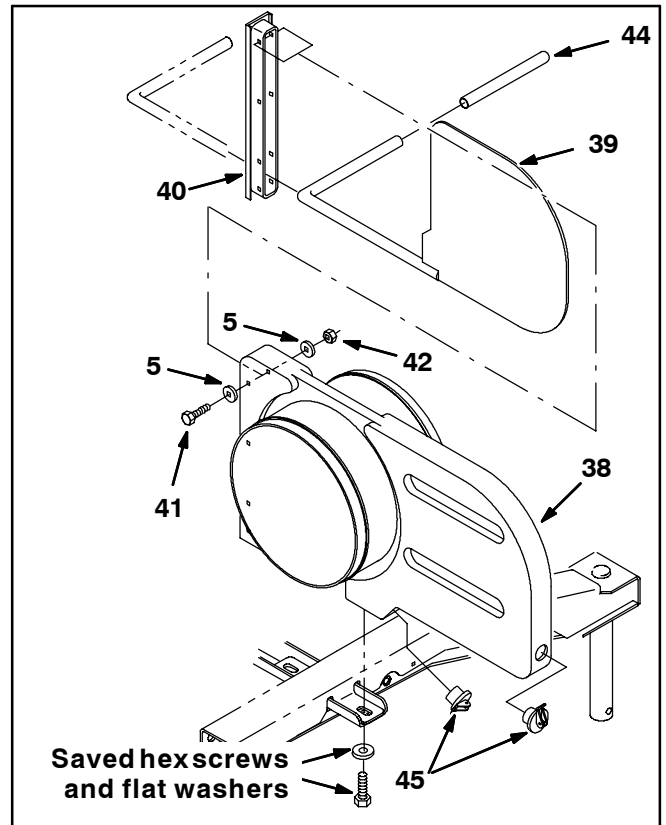

FIG. 14
3. Slide the valve seal (40) onto the valve plate (39) handle. Refer to Fig. 14.
4. Slide the valve plate (39) into the valve body (38) and use four hex screws (41), eight washers (5), and four hex nuts (42) to install the valve seal (40) onto the valve body. Be sure the valve plate handle points toward the right outside of the machine. Refer to Fig. 14.
5. Install the vinyl grip (44) onto the valve plate (39) handle. Refer to Fig. 14.
6. Install the expandable plugs (45) into the valve body (38). Refer to Fig. 14.
7. Use the two set aside hex screws and flat washers to install the valve body (38) onto the rear vacuum support arm. Refer to Fig. 14.
8. Use the saved hose clamps to install the hoses onto the valve body (38). Refer to Fig. 14.
11. The expandable plugs (45) allow access for cleaning the gate valve body (38). Periodically check gate valve body and plugs for proper operation.